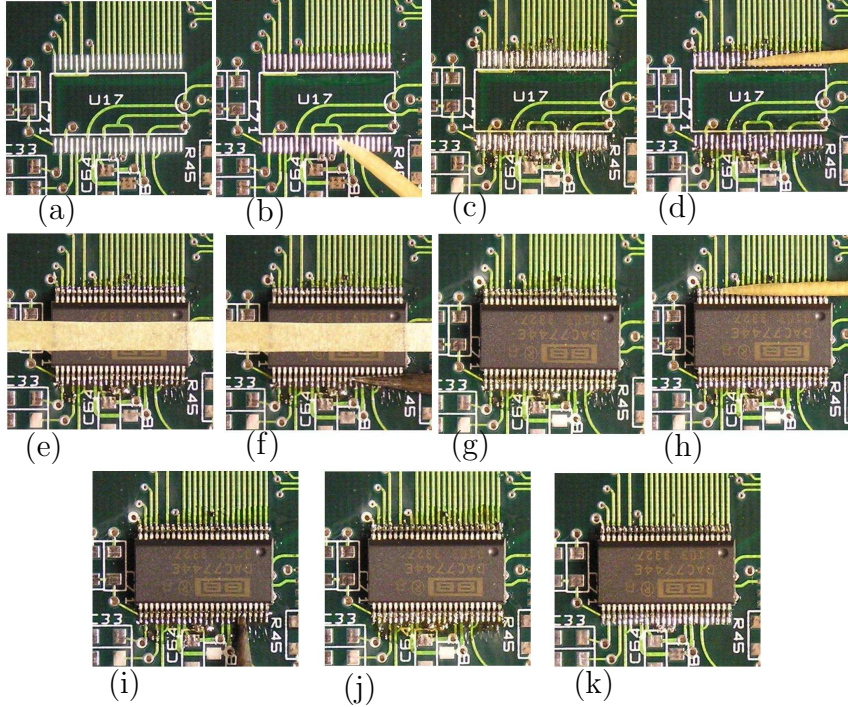

Figure 1: Soldering the DAC, see text for explanation.
- Very small pins, such as the SSOP package (the DAC), require special attention. A procedure for soldering the DAC is shown in Figure 1 and is as follows: (a) A clean new board has a solder mask, the solder mask does not have enough solder to attach the pins reliably to the board. (b) Apply liquid solder flux to the pins. (c) Add solder to each pin, this can be done by smearing solder from the iron across the pins and then striking them with the iron tip in the long direction. It should leave a semi-sausage on each pin. This additional solder is critical to making a reliable contact. (d) Apply more solder flux. (e) Place the chip on the pad and attach with masking tape. The IC will not lay perfectly flat, but close if the additional solder is sufficiently uniform, it is not totally important. (f) Heat pins in sets with a clean iron. This causes the solder to flow and stick to the pins. It may be useful to press the IC with a finger as well. (g) Remove tape, the IC is now attached to the board. (h) Apply more solder